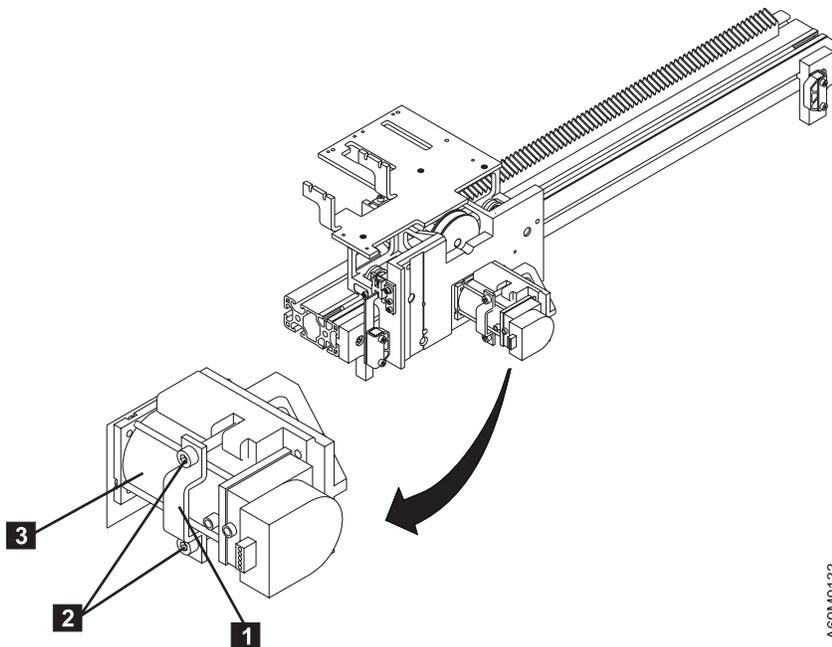

Figure 153. X-Axis Motor
4. Refer to Figure 153 on page 658. Remove the two screws **2** to remove the bracket **1**.